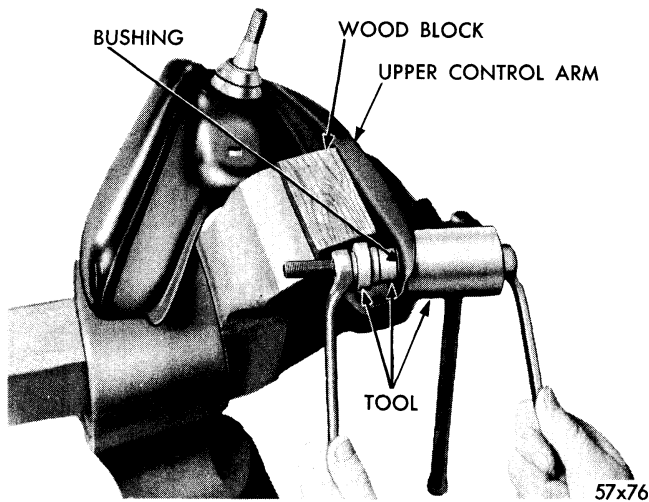

Figure 15—Removing Upper Control Arm Bushing
1. **REMOVAL**—To remove the upper control arm bushings due to wear assemble Tool C-3558, over bushing and arm and press bushing out of arm, (from inside out), as shown in Figure 15. Be sure the control arm is firmly supported if a hammer and drift is used in place of tool.